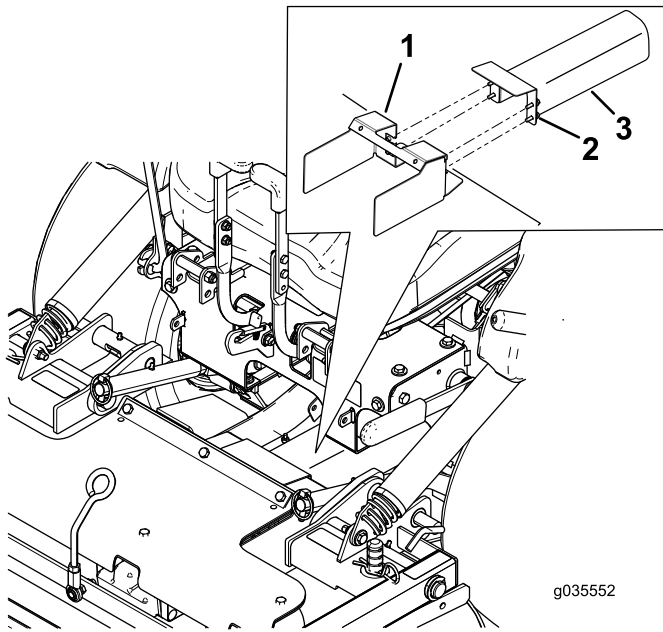

Figure 20
4. Loosen the bolts and remove metal guards shown in Figure 20.
2. Install the metal guards and bolts as shown in Figure 20.